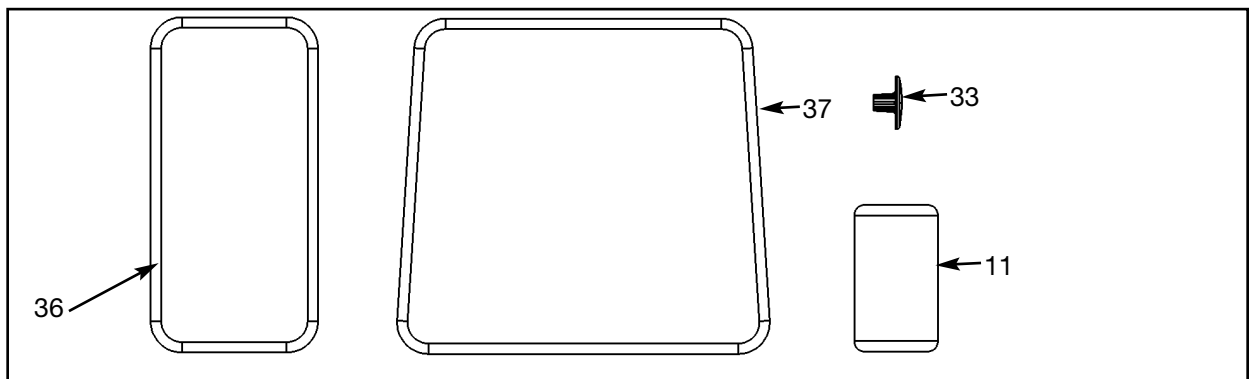

Figure 20
10. Install the back and seat cushions (see steps 10A - 10I and Figures 20 - 21).
- A. Locate the cushion box and verify the contents as shown in Figure 20.